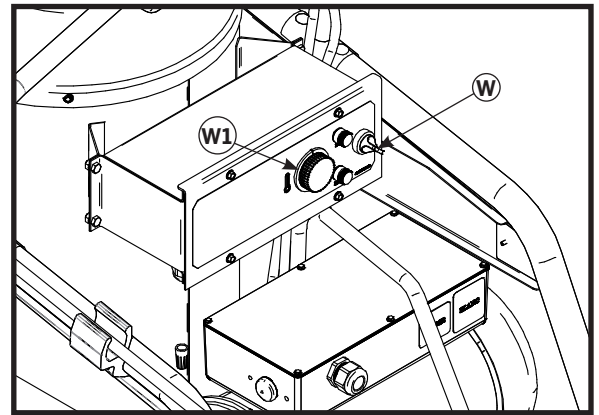

Figure 19
1. If the machine has been used for hot water pressure washing, turn off the burner switch (W on figure 19).
5. Stop the pump motor (W in figure 19)